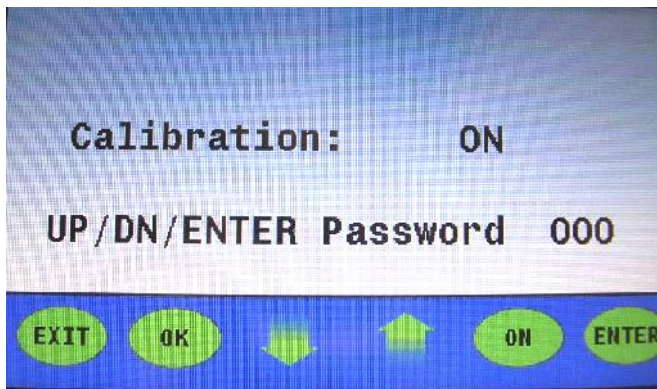

Figure 4
8. Press the up or down arrow once and three “0”s / (000) will show up to the right of the word “Password”. The first digit will be blinking. (**Figure 4**)